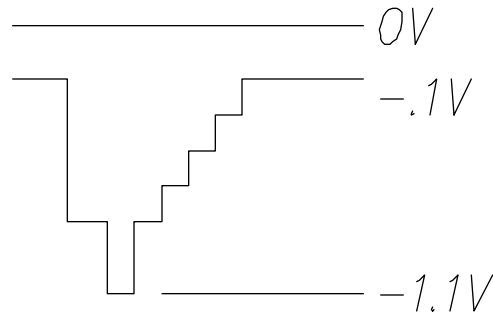

Figure 5-1. Waveform
6. Monitor TP2 with an oscilloscope. Adjust pot R41, manual offset, for a blanking level of -0.8 VDC. The waveform shown in Figure 5-1 should be observed. Move the jumper W2 on J4 to the Clamp Enable position. Adjust pot R152, depth of modulation, for a blanking level of -0.8 VDC.